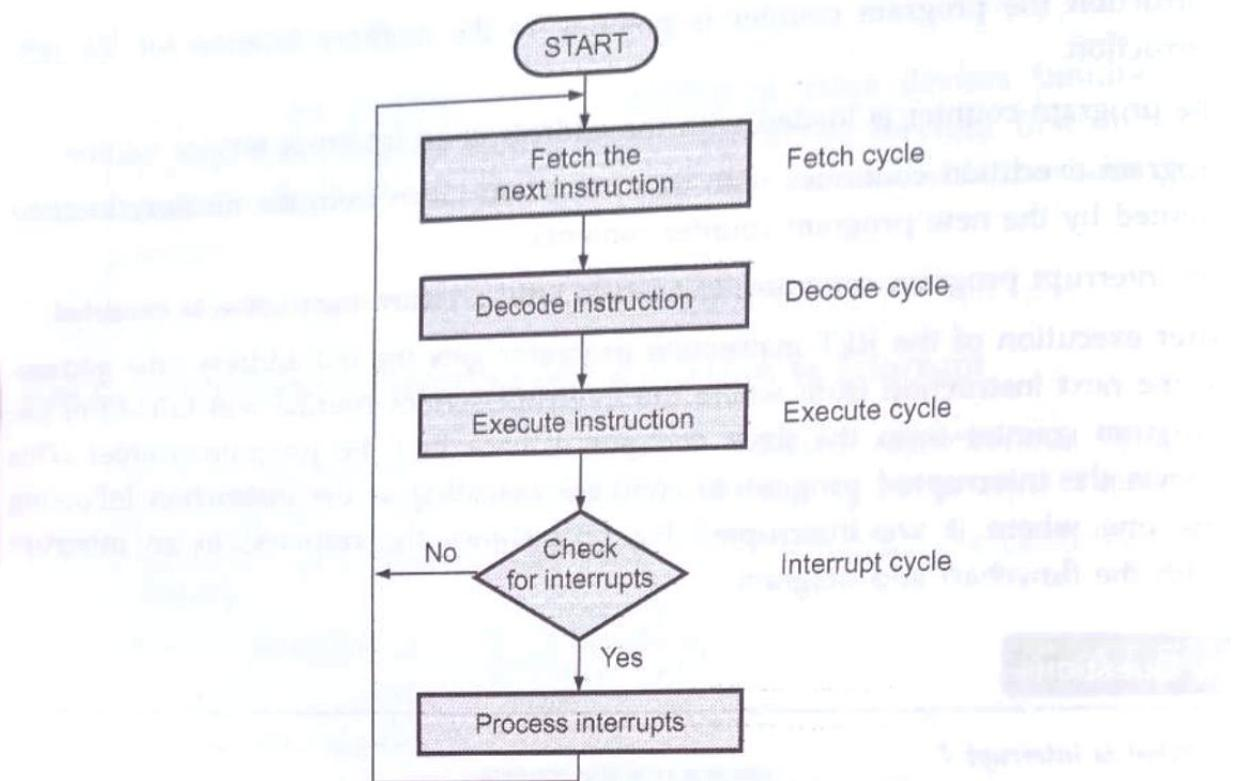

Fig. 1.6.1 Basic instruction cycle with interrupt cycle
- Fig. 1.6.1 shows the basic instruction cycle.